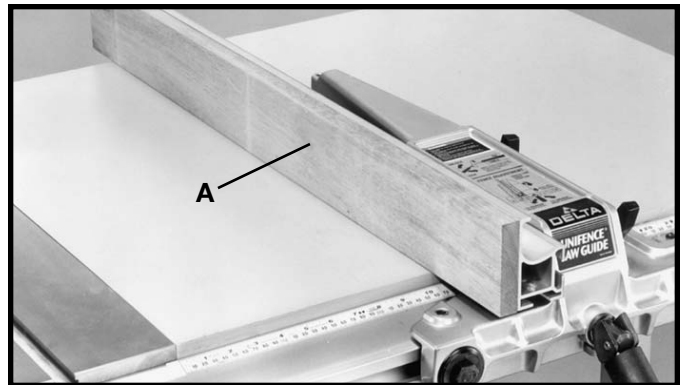

Fig. 91
It is necessary when performing special operations such as when using the moulding cutterhead to add wood facing (A) Fig. 91, to one side of the rip fence as shown. The wood facing is attached to the fence with wood screws through holes that you must drill in the fence. A suitable stock size for most work is 3/4", although an occasional job may require one inch facing.